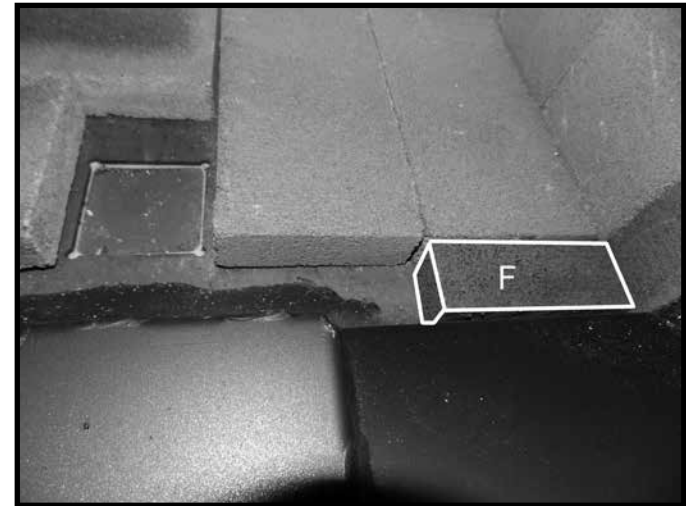
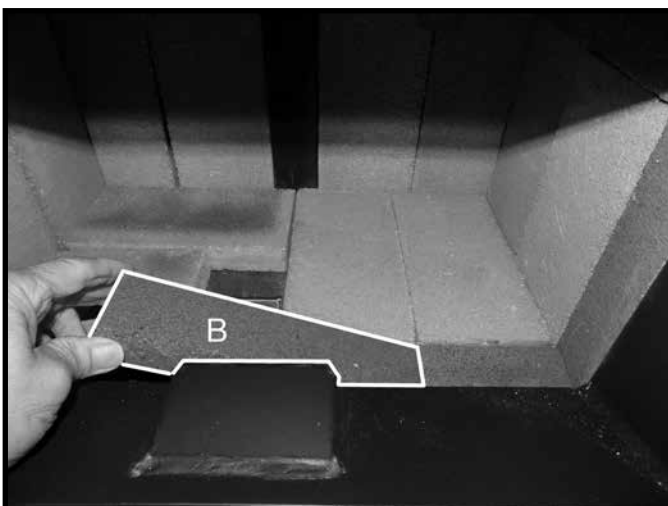
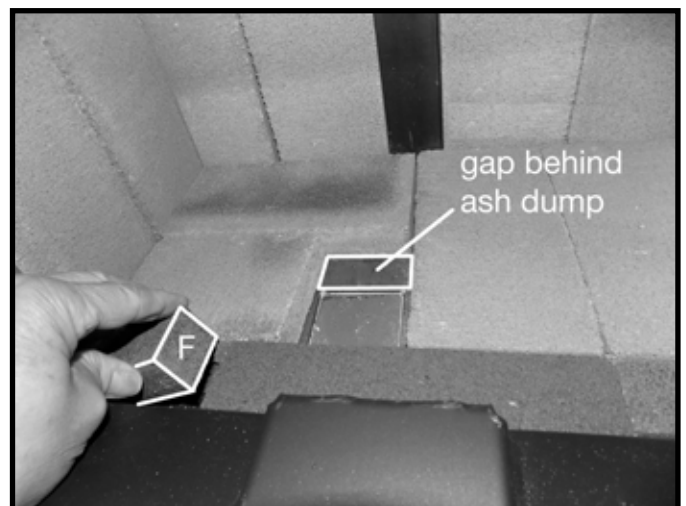

Figure 24. Short, narrow brick installed in front row.
Figure 25. Long, narrow center brick in front row.
Figure 26. Final short, narrow brick in front row.
10. Place a short narrow "F" brick against the front right side of the floor (Figure 24) followed by a longer "B" brick in the center of the front row (Figure 25). Finish with the last "F" brick placed against the left side front row (Figure 26). Note: There will be a gap remaining behind the ash dump.